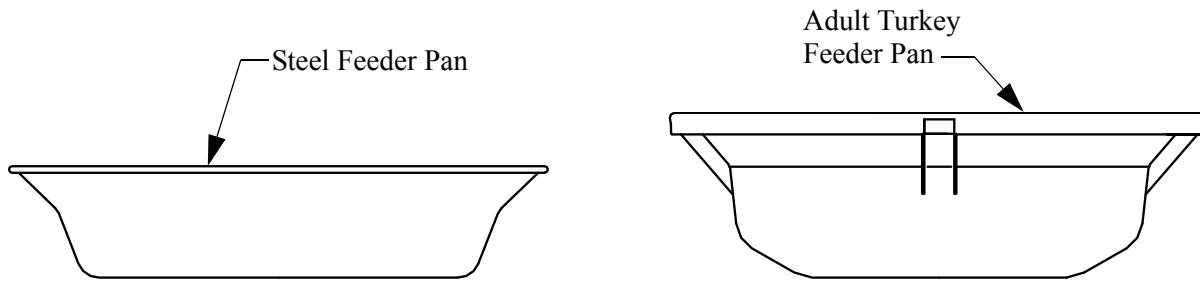

Figure 24.Feeder Pans
3. Determine which Feeder Pan (Adult Turkey or Steel) is to be installed, see **figure 24**.